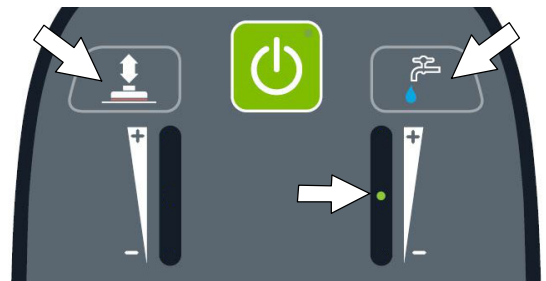

FIG. 163
4. To save the selected mode, press and hold the brush pressure button and the solution flow button together until the LED turns solid, approximately 3 seconds (Figure 163).